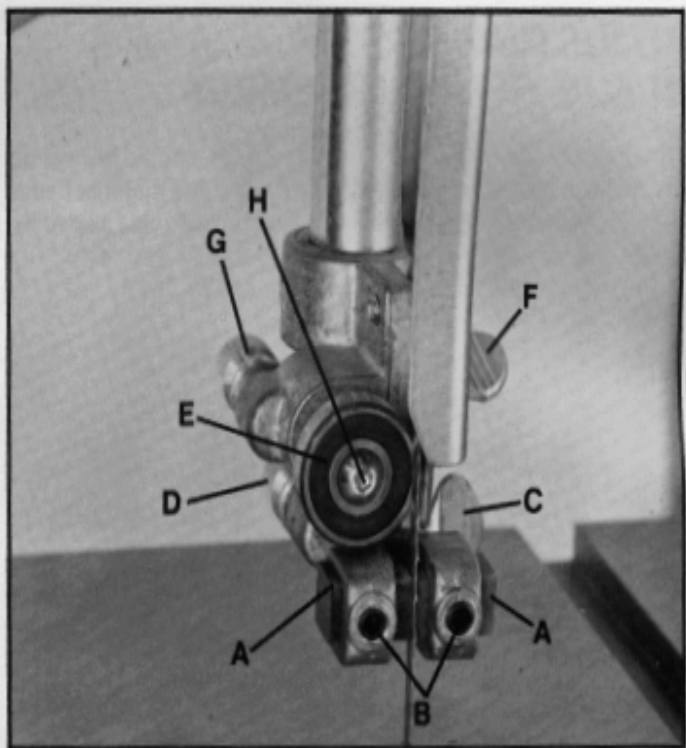

Fig. 36
1. The upper blade guides (A) Fig. 36, are held in place by means of the set screws (B). Loosen the set screws (B) to move the guides (A) as close as possible to the side of the blade, being careful not to pinch the blade. Then tighten the screws (B).
2. The guides (A) Fig. 36, should then be adjusted so that the front edge of the guides are just behind the "gullets" of the saw teeth. The complete guide block bracket can be moved in or out by loosening thumb screw (C) and turning knurled knob (D) Fig. 36. When guides (A) are set properly, tighten thumb screw (C).
3. The upper blade support bearing (E) Fig. 36, prevents the blade from being pushed too far to the back which could damage the set in the saw teeth. The support bearing (E) should be set $1/64$ " behind the blade by loosening thumb screw (F) and turning knurled knob (G) to move the support bearing (E) in or out.
4. The blade support bearing (E) should also be adjusted so the back edge of the blade overlaps the outside diameter of the ball bearing by about $1/16$ ". The bearing (E) is set on an eccentric and to change position remove screw (H) and bearing (E) Fig. 36. Loosen thumb screw (F), back out screw (G) and reposition shaft that bearing (E) is attached to.